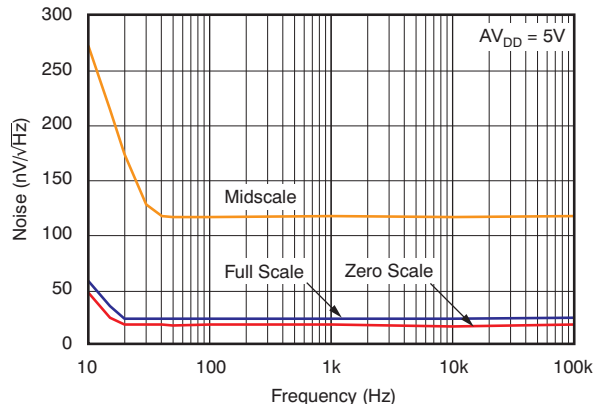

Figure 23. DAC Output Noise Density vs Frequency
(4) For more details, see Figure 23.